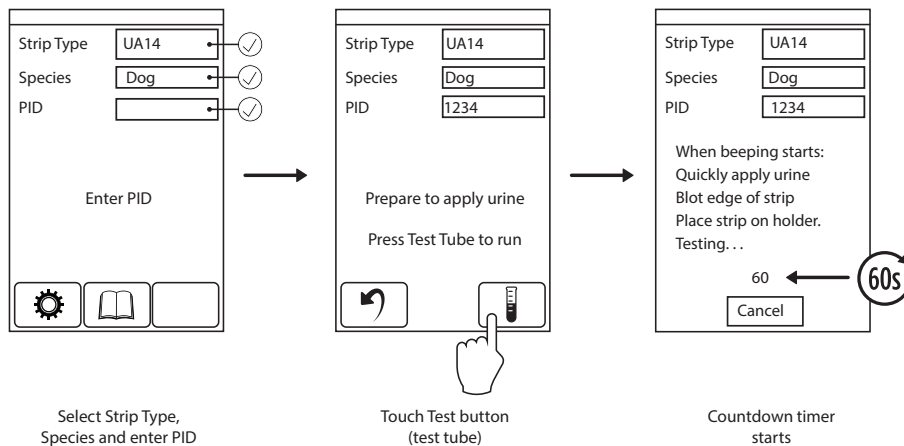

Fig. 10 Enter Patient Information
2. Enter test information (Fig. 10)
4. Countdown timer appears. Perform the next three steps before the timer reaches 35. The Test strip must be placed on Strip Tray before timer reaches 35 (Fig. 10).